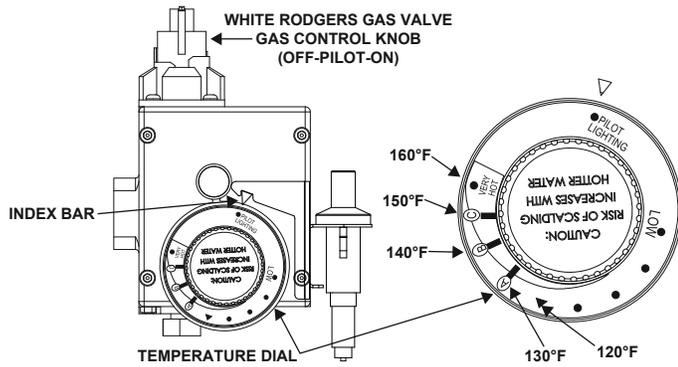

FIGURE 19
**HOTTER WATER CAN SCALD:** Water heaters are intended to produce hot water. Water heated to a temperature which will satisfy space heating, clothes washing, dish washing, and other sanitizing needs can scald and permanently injure you upon contact. Some people are more likely to be permanently injured by hot water than others. These include the elderly, children, the infirm, or physically/mentally handicapped. If anyone using hot water in your home fits into one of these groups or if there is a local code or provincial law requiring a certain temperature water at the hot water tap, then you must take special precautions. In addition to using the lowest possible temperature setting that satisfies your hot water needs, a means such as a mixing valve should be used at the hot water taps used by these people or at the water heater. Mixing valves are available from Reliance Home Comfort. Follow manufacturer's instructions for installation of the valves. Before changing the factory setting on the thermostat see Figure 19. Using the lowest hot water temperature that meets your needs will also provide the most energy efficient operation of the water heater.
The thermostat of this water heater has been factory set at its lowest position. It is adjustable and must be reset to the desired temperature setting to reduce the risk of scald injury. The ▲ mark is indicative of approximately 49°C (120°F) and are the preferred starting points, see Figure 19. Some provinces have a requirement for a lower setting.